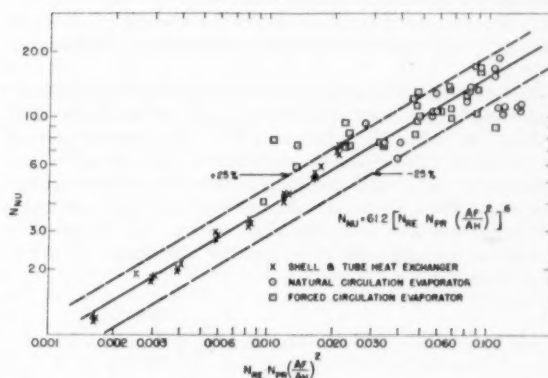

FIG. 7 SHELL-SIDE HEAT-TRANSFER COEFFICIENTS FOR LIQUID METALS
Shell-Side Heat-Transfer Coefficients. The results of the horizontal shell-and-tube heat exchanger, the forced-circulation top evaporator, and the natural-circulation evaporators have been correlated as shown in Fig. 7. The characteristic dimension used in N_{Nu} and N_{Re} is the tube outside diameter. The physical properties (6) were evaluated at the average bulk temperature. The range of N_{Pr} was from 0.0076 to 0.0104. In all cases the fluid was NaK (44 per cent Na). The term A_F/A_H represents the ratio of flow area to heat-transfer area. There was a wide range of the ratios since the liquid-metal heat exchanger was composed of small tubes closely packed while the evaporators had large tubes in a relatively open arrangement.